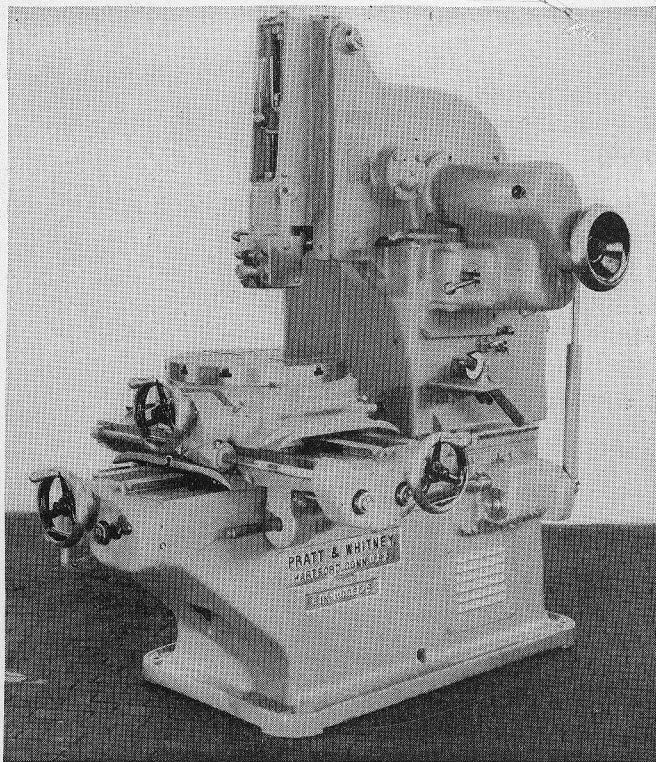

Fig. 2-64. The vertical shaper. (*Pratt & Whitney Company*)
**Vertical Shaper.** The vertical shaper (Fig. 2-64) is much used in general machine shops and toolmaking departments. The worktable with longitudinal, transverse, and rotary feeds, both hand and power, gives certain advantages; for example, a variety of power-fed cuts, straight and curved, with the layout lines always in plain sight of the operator.